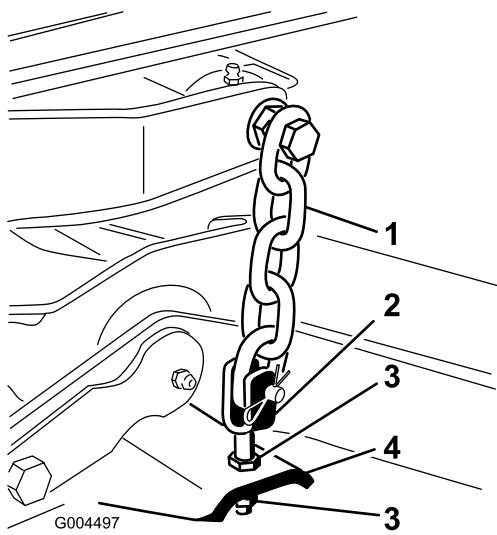

Figure 5
- Adjust the jam nuts securing the mower yokes/chains to the mower until the mower is level (Figure 5).
7. Adjust the jam nuts securing the rear mower yokes/chains (Figure 5) to raise the rear of the mower so that the blade pitch is set to 5/16 to 7/16 inch (8 to 11mm).